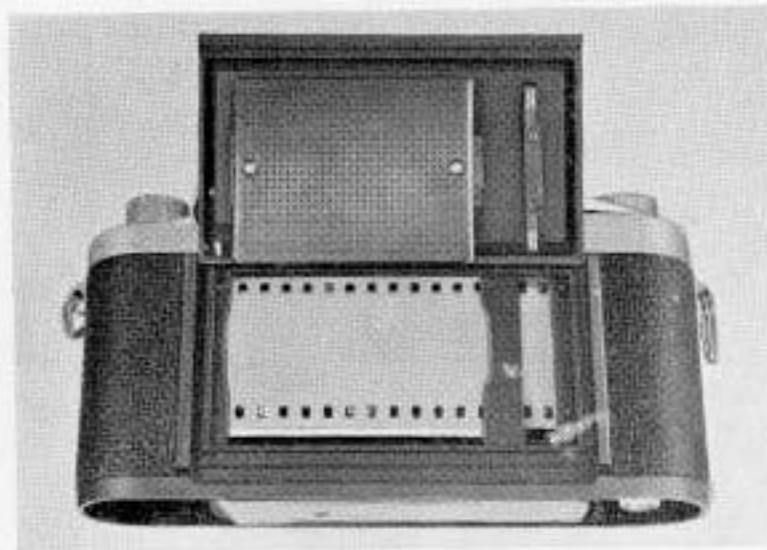

Fig. 3
- (IV) Open the rear-cover by hooking your finger-nail to the lug of the rear-cover. (See Fig. 3)